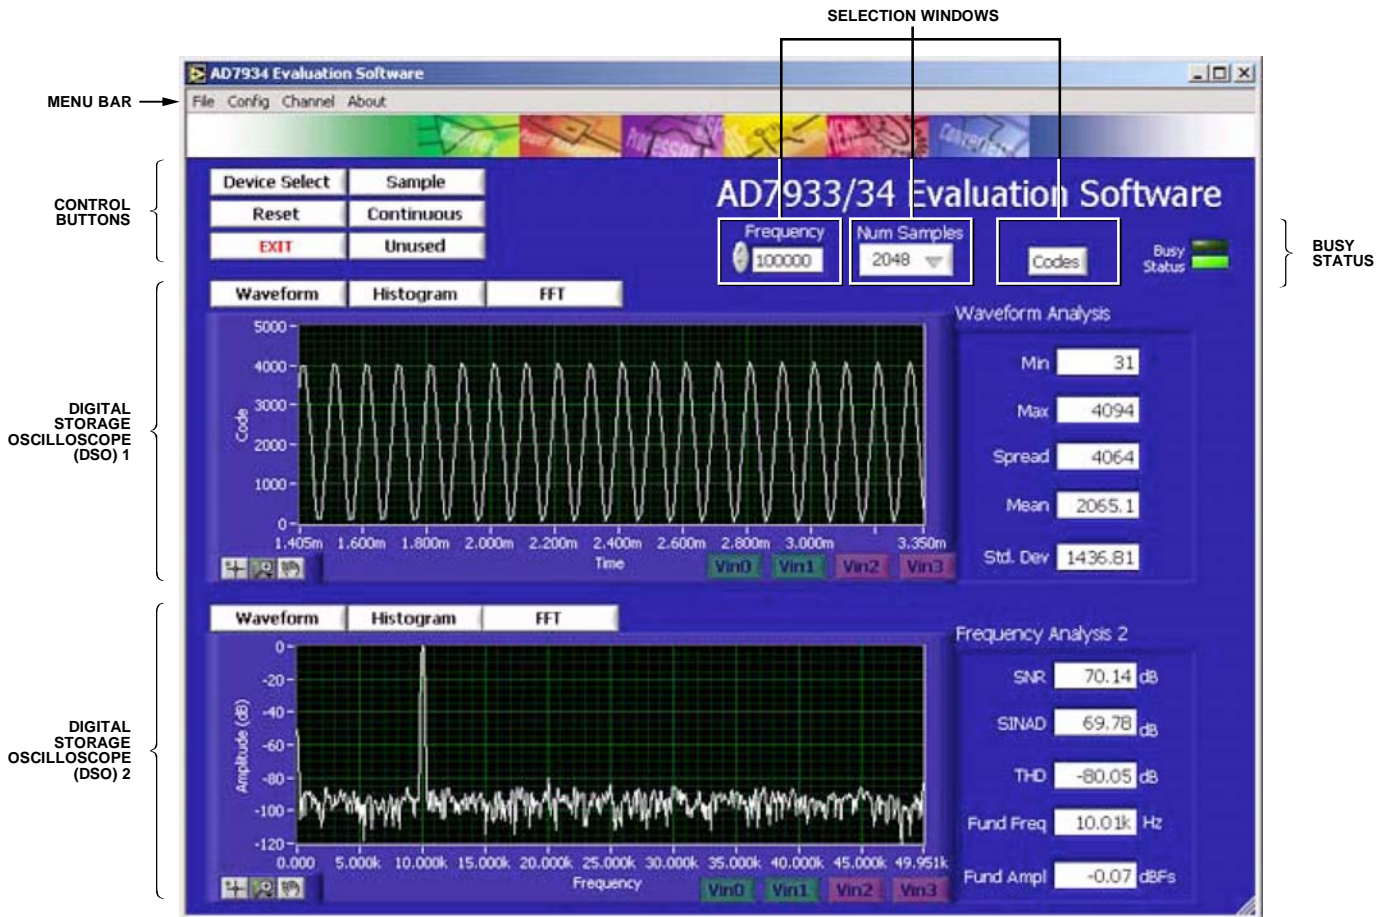

Figure 3. AD7933/AD7934 Main Window
When the software runs, the window shown in Figure 3 appears. Its main function is to allow you to read a predetermined number of samples from the evaluation board and display them in both the time and frequency domain.
1. Click the **Device Select** button on the main window (see Figure 3). This brings up the load configuration window.